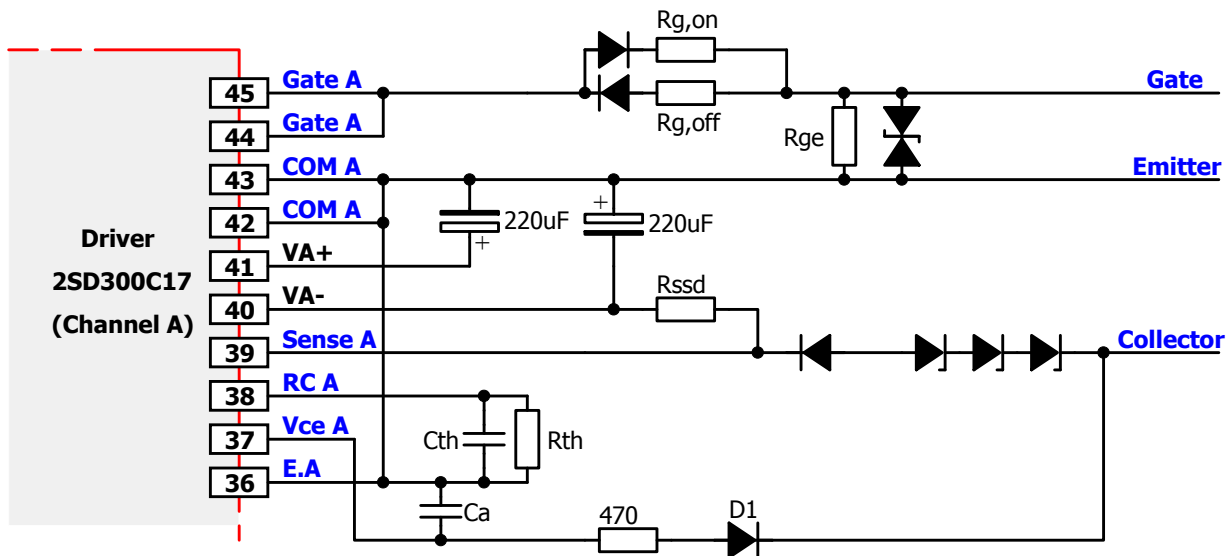

Fig. 6 Recommended user interface of 2SD300C17 (only channel A, secondary side)
Fig. 6 shows the recommended interface circuit for the secondary side of the driver (channel A). The same circuit can be used for channel B (not shown).
The blocking capacitors must be placed between V_{x+} and COM x as well as between COM x and V_{x-} (see Fig. 6). They must be connected as close as possible to the driver's terminal pins with minimum inductance. Capacitors with high ripple current capability should be used.
- $R_{ssd}=10k\Omega$, $C_a=1nF$ (see Fig. 6)
2SD300C17 drivers are equipped with a dynamic collector sense function. The collector sense must be connected to the IGBT collector with the circuit shown in Fig. 6 in order to detect an IGBT overcurrent or short-circuit. For more details about the functionality of this feature, refer to "Vce monitoring / short-circuit protection" on page 14.
Active clamping can be realized with a feedback from the collector to the Sense x input according to Fig. 6. It is recommended to use the following transient voltage suppressors (TVS):
The 2SD300C17 driver is equipped with a Vce monitoring circuit. The recommended circuit is illustrated in Fig. 6. A resistor and a capacitor (Rth and Cth in Fig. 6) are used as the reference elements for defining the dynamic turn-off threshold.